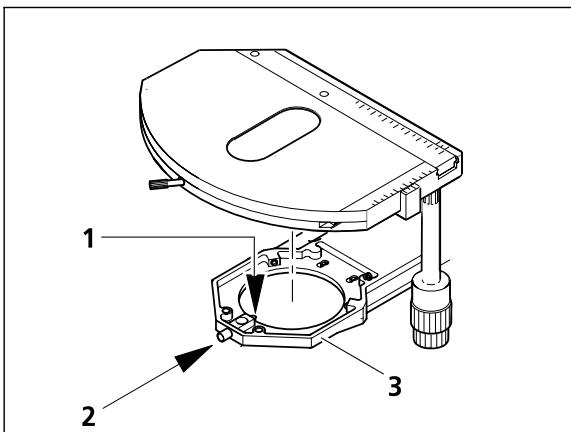

Fig. 3-11 Changing the rotatable mechanical stage
- Loosen the screw caps (Fig. 3-11/2) of the spring box with approx. 3 turns.
- Press the stage forward against the spring pin (Fig. 3-11/1), lift the backside off the stage carrier (Fig. 3-11/3) and remove it by lifting it upward.
- Tighten the screw caps (Fig. 3-11/2).
- Put the stage with the dovetail ring notch onto the spring pin (Fig. 3-11/1).
- Press the stage forward against the spring pin and lower its back into the stage carrier (Fig. 3-11/3).